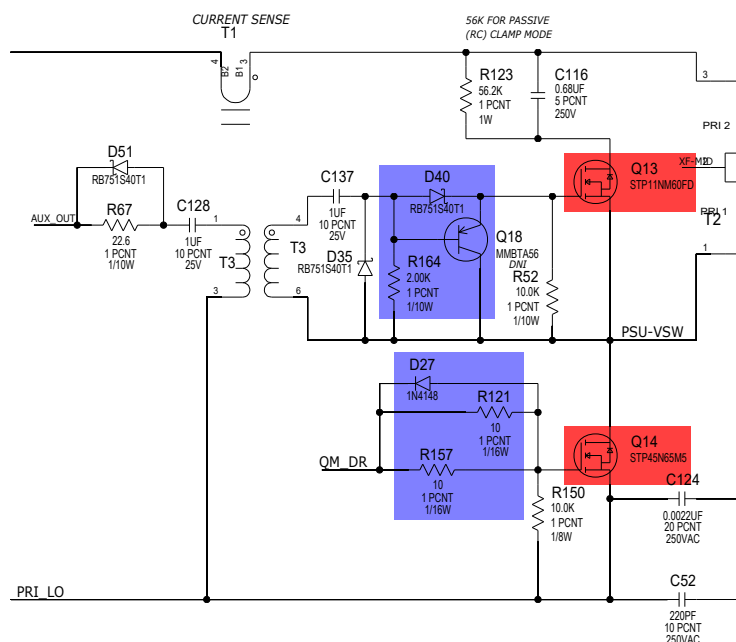

Figure 8.4.2 - Some components to check if the MOSFETs fail.
- Use the highlighted schematic in Figure 8.4.2 as a component check guide. Replace components in red and check components in blue.